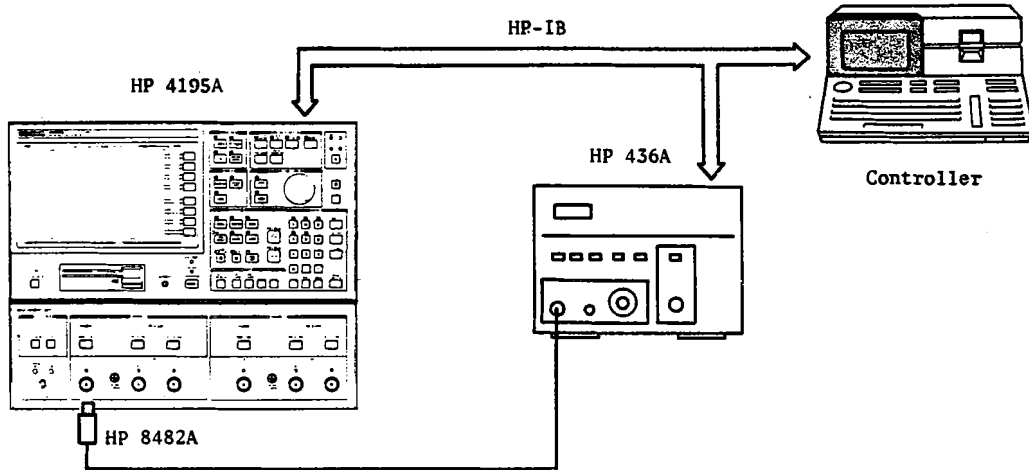

Figure 3-149. Signal Source Amplitude Calibration Setup
2. Connect the Sensor to **OUTPUT S1**, as shown in Figure 3-149.